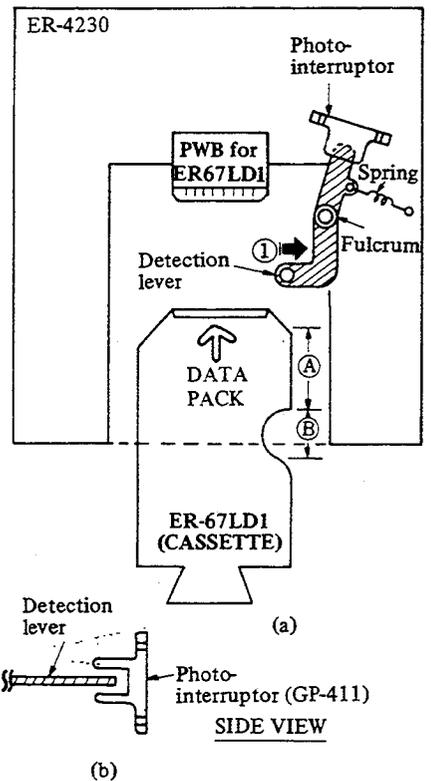

Fig. 28
As the detection lever is pushed towards the arrowhead (1) (Fig. 28) by the portion A of the DATA PACK when the DATA PACK is connected to the ER-4230, its tip goes out of photo interruptor range and causes the detect signal $\overline{POF1}$ to turn low level. This turns TR13 off, TR12 on and makes \overline{POF} low level to simulate a power failure condition. This holds the CPU from operating momentarily. Further insertion of the DATA PACK causes the lever to return to the position shown by (a) of Fig. 28 and causes the front edge of the lever to be inserted within the operating range of the photo interruptor to start the CPU again.